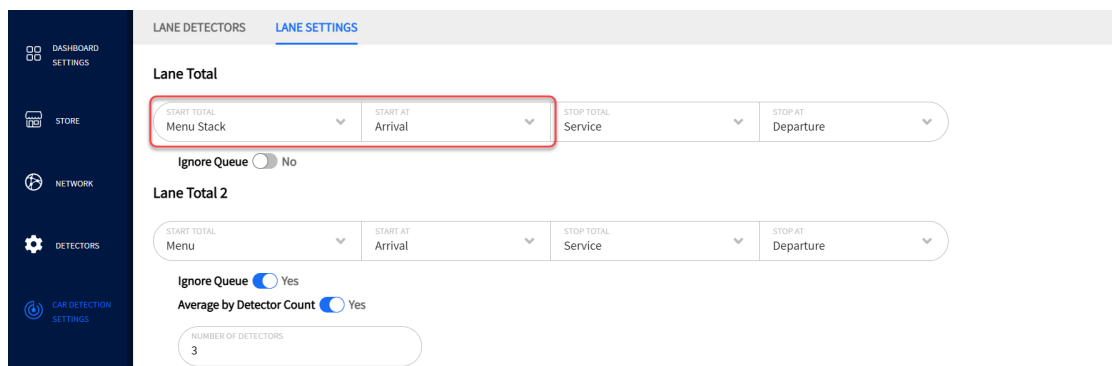

Fig. 7.1
2. Use the drop-down lists to select “Menu Stack” in the START TOTAL field and the desired option in the START AT field. See Fig. 7.1.